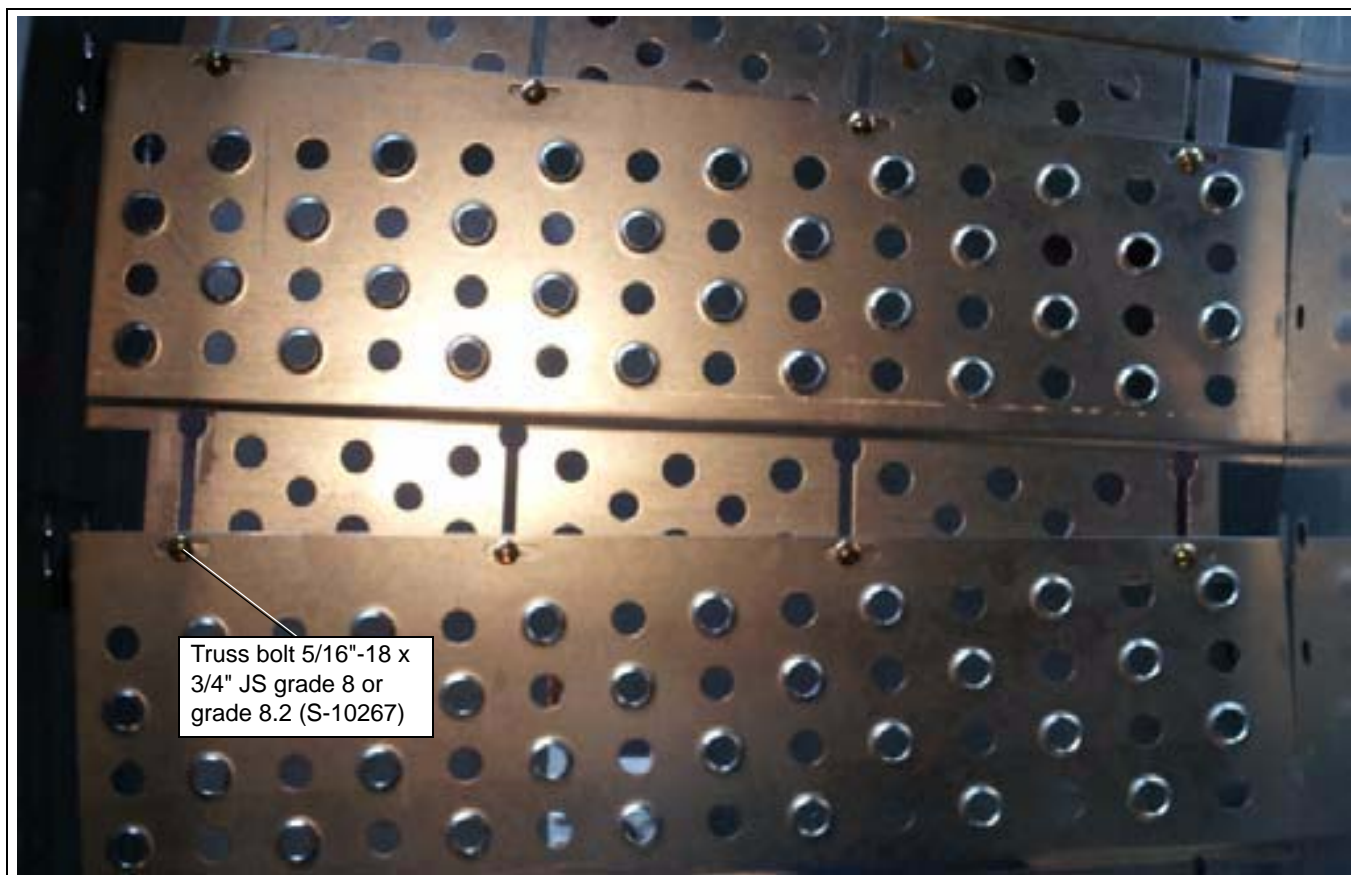

Figure 4N
- Each plank should be overlapped at the edges and bolted with 5/16"-18 x 3/4" JS grade 8 or grade 8.2 bolts (S-10267) and 5/16"-18 JS grade 5 nuts (S-10268). (See Figure 4N.)